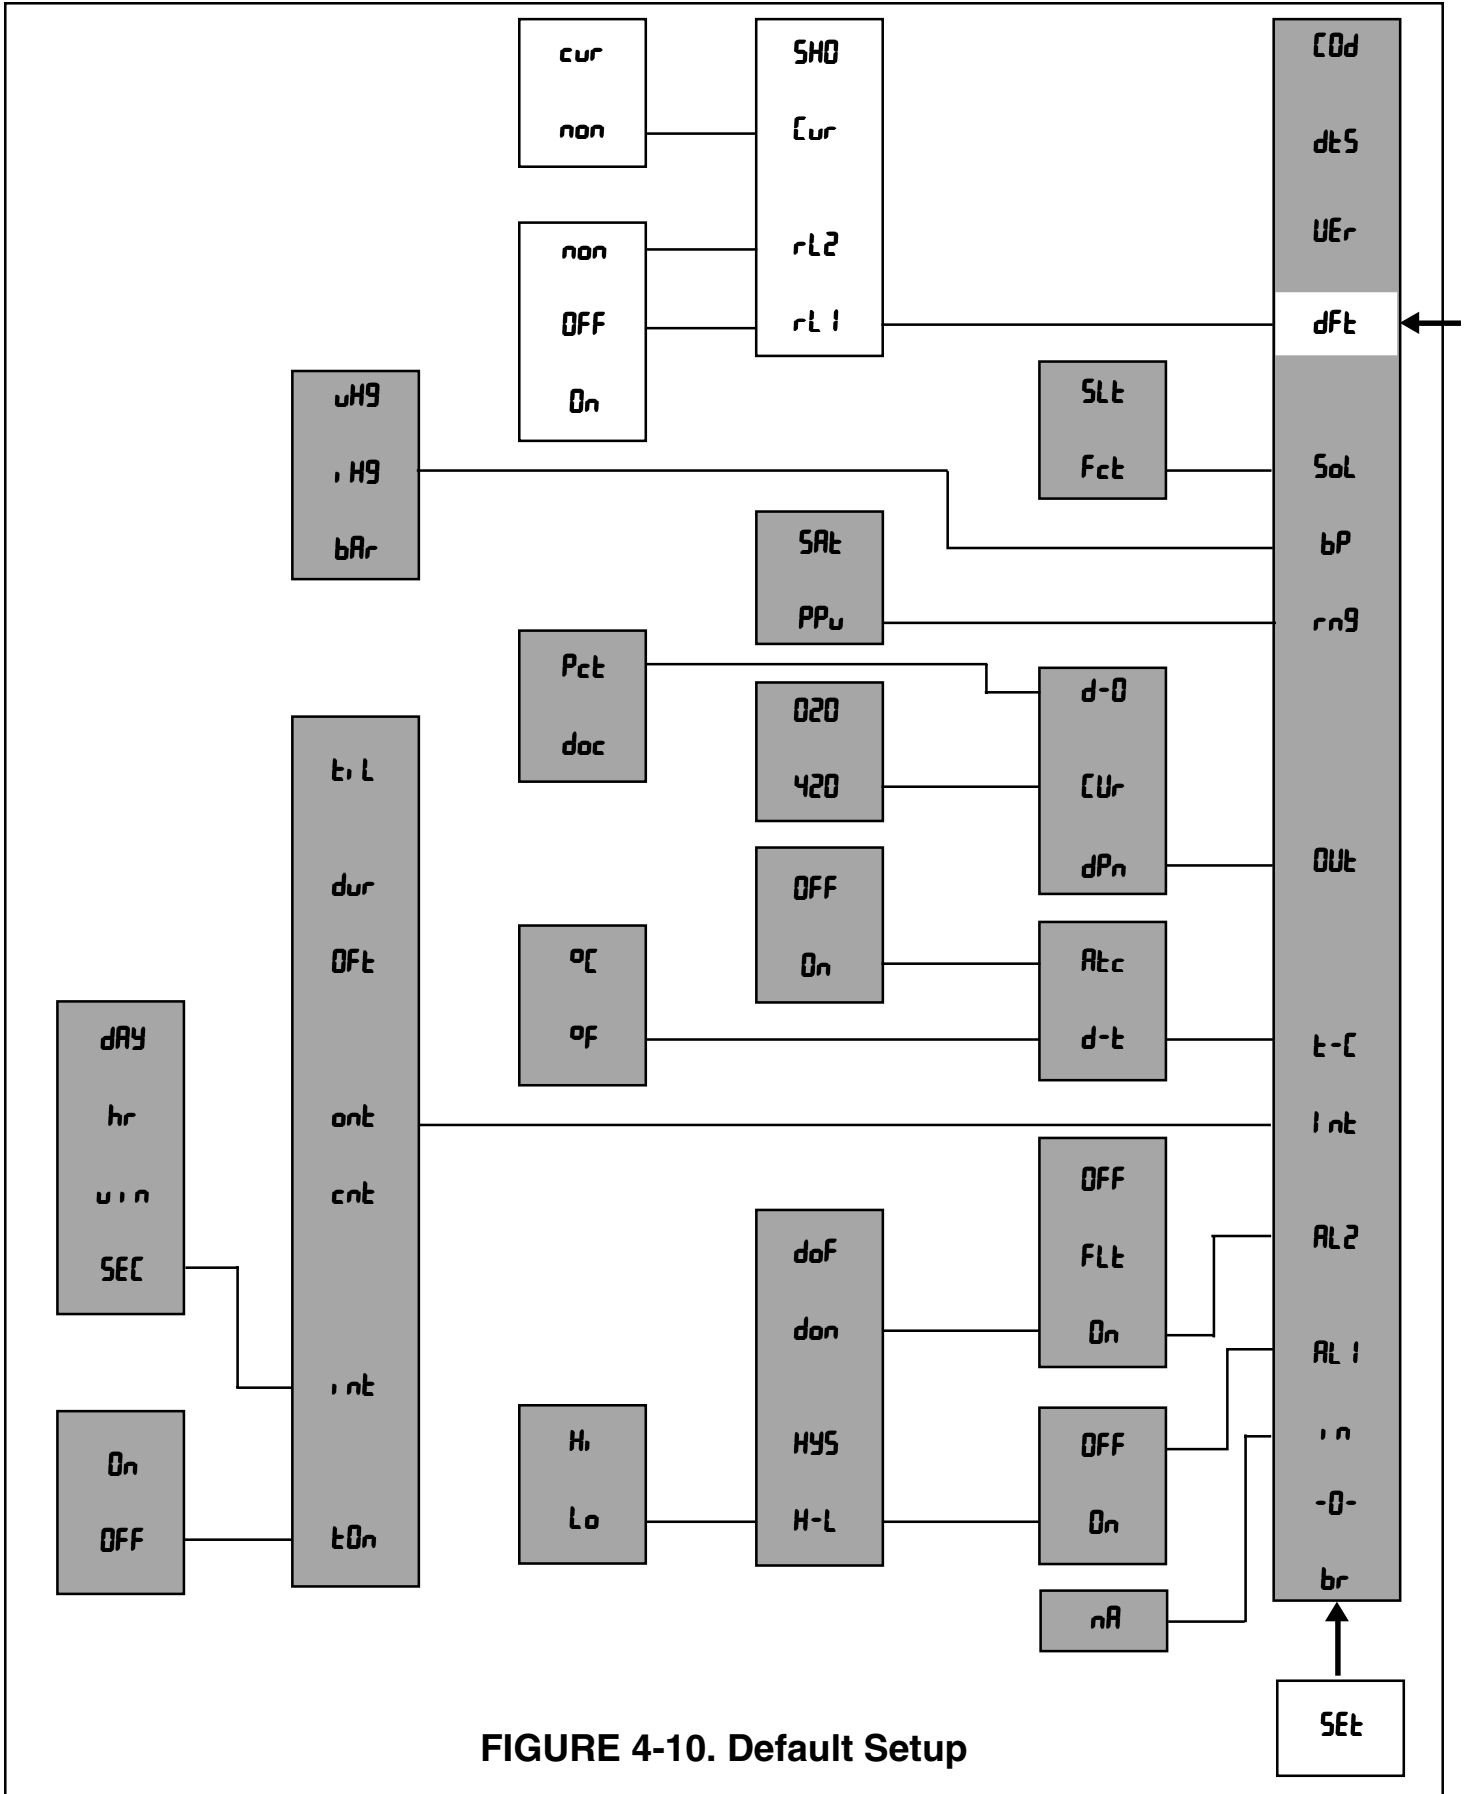

FIGURE 4-10. Default Setup
4.10.1 Default Setup (dFt). Refer to Figure 4-10.